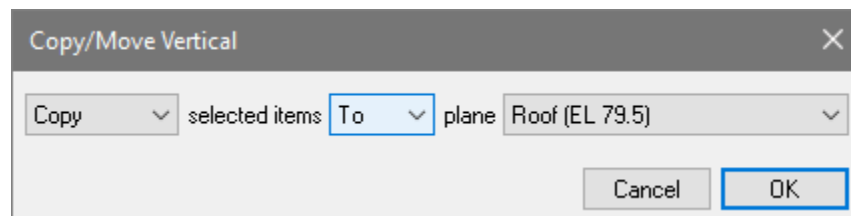

Figure 10-2
- Click the **Close** button. The user's screen should now look similar to the screen shown in **FIGURE 10-2**.